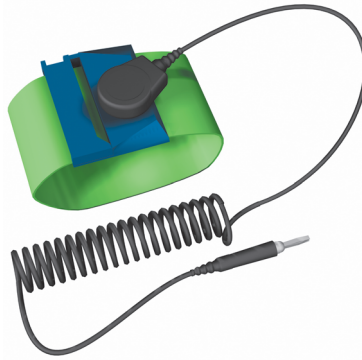

Figure 2. ESD Protection
6. Ensure that the DVR5100 DVR and all of its components are protected from electrostatic discharge (ESD). Before handling any electronic components, you should take steps to ground yourself properly so that any built-up static electric charges are dissipated away from the unit. The most effective method for combating ESD is to use a properly grounded wrist strap (refer to Figure 2). These wrist straps are designed to be plugged into specially-designed mats.